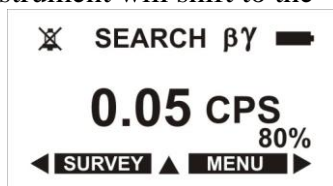

Figure 2.39
- “DISABLE BEEP” – after choosing this line (Figure 2.39.) the audible signal average impulse counting rate of the registered $\beta\text{-}\gamma$ -radiation will shut off in the “SEARCH $\beta\gamma$ ” mode;
- “BACKGROUND β ” – background β measurement the same as in the item 2.2.6.3.